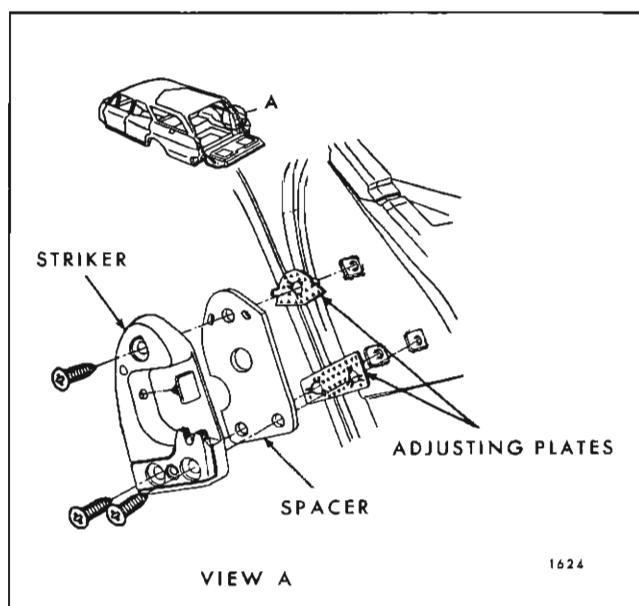

Fig. 1F30—Tail Gate Lock Striker Assembly
3. To install tail gate lock striker, place striker and adjusting plates within marks on body pillar and install striker attaching screws (see Fig. 1F30).
b. To determine if tail gate lock striker emergency spacers are required, apply modeling clay or body caulking compound in the lock striker notch where the lock extension engages and then close the tail gate to form a measureable impression in the clay or caulking compound, as shown in Figure 1F31.